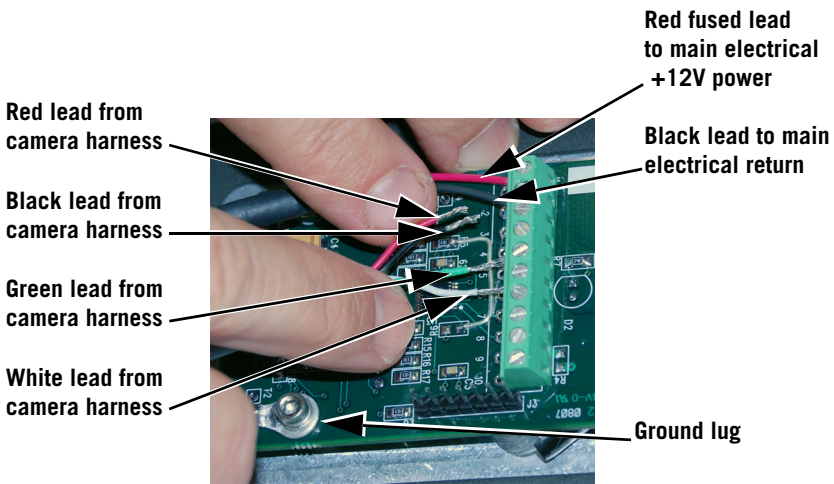

Figure 3-8: Control and power connections to JCU terminal block
Step 4 Connect the camera power and communication cable leads to the Joystick Control Unit terminal block as shown in Figure 3-8, there are six color coded wires from the two cables entering the JCU. Refer to Table 3-1 for wiring terminations. The terminal numbers are silk-screened onto the printed wiring board.